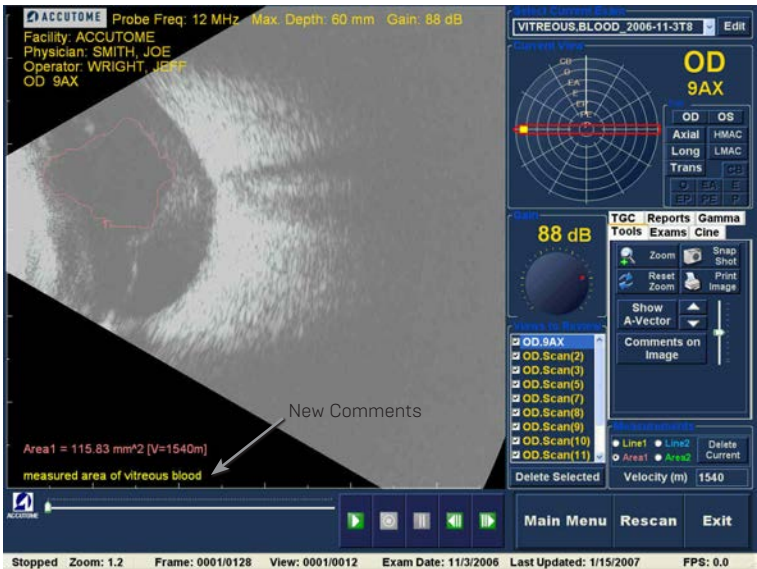

Figure 6.29 - Comments Appearing on Image
6. The entered comments will appear on the image as shown in Figure 6.29 below.